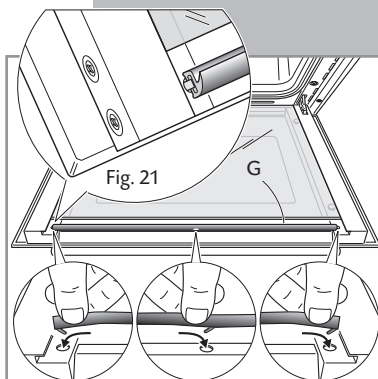

Fig. 21
- Top oven door only: reassemble the seal **G** in the correct way (fig. 21) by hooking the no. 3 fixing hooks in the proper holes (fig. 22).